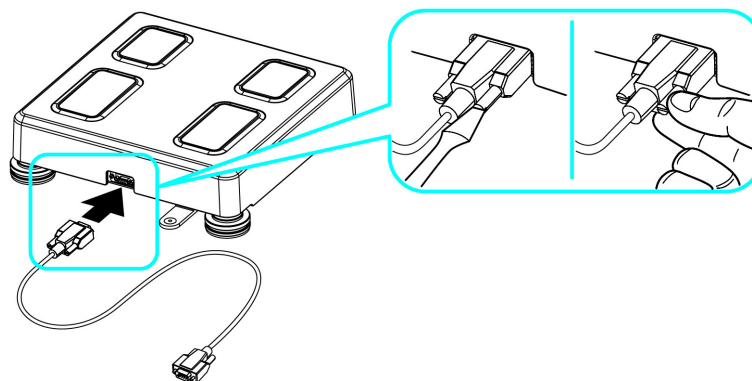

Figure 3-7. Fasten Weight Scale Cables
2. Fasten the DB-9 scale base cable as shown in Figure 3-7